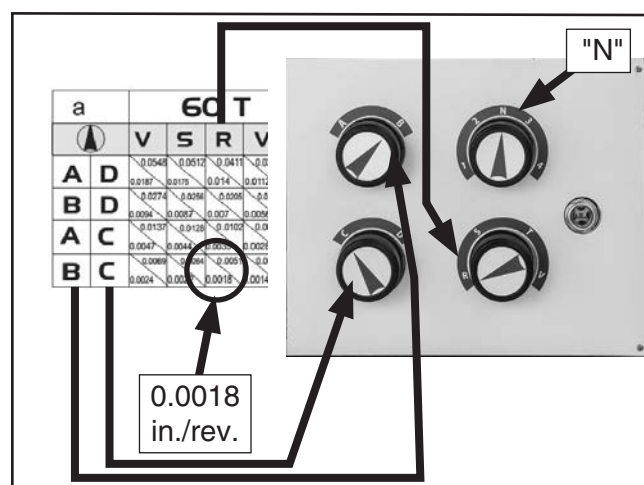

Figure 73. Gearbox dials positioned for 0.0018 in./rev.
4. Position the gearbox dials as directed by the chart shown in **Figure 73**. Be sure to point the top right dial to "N" select the feed rod and disengage the leadscrew. If necessary, use the chuck key to rock the spindle back and forth to help mesh the gears.